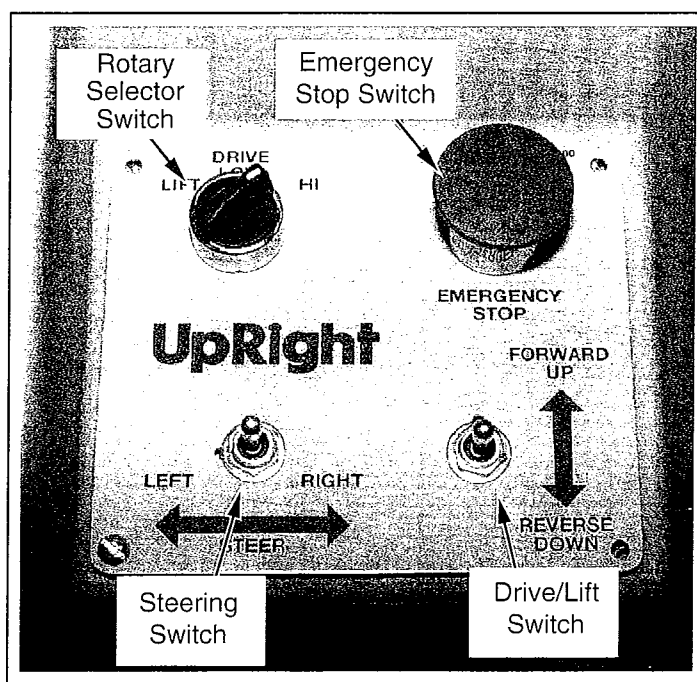

Figure 2-5: Standard Controller
19. STANDARD MODELS (Figure 2-5)
7. STANDARD MODELS (Figure 2-5)
2. STANDARD MODELS (Figure 2-5)